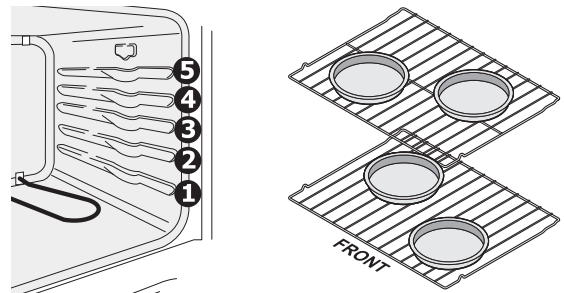

Figure 4: Rack positions (L) and pan spacing (R)
- When baking cakes using 2 racks, place bakeware on oven rack positions 2 and 4 and place the cake pans as shown. (See Figure 4)